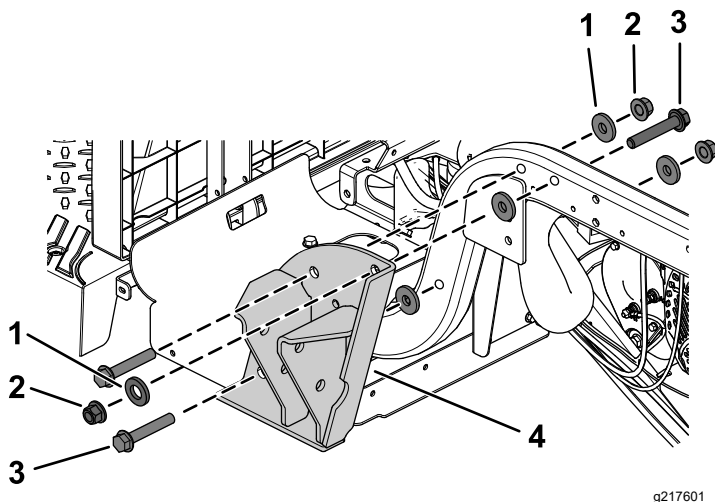

Figure 25
1. Install a ROPS bracket using 3 flange-head bolts (1/2 x 3 inches), 5 flat washers (1/2 inch), and 3 locknuts (1/2 inch) as shown in Figure 25.
Note: Ensure that you install the 2 flat washers (1/2 inch) on the outside as shown in Figure 25.